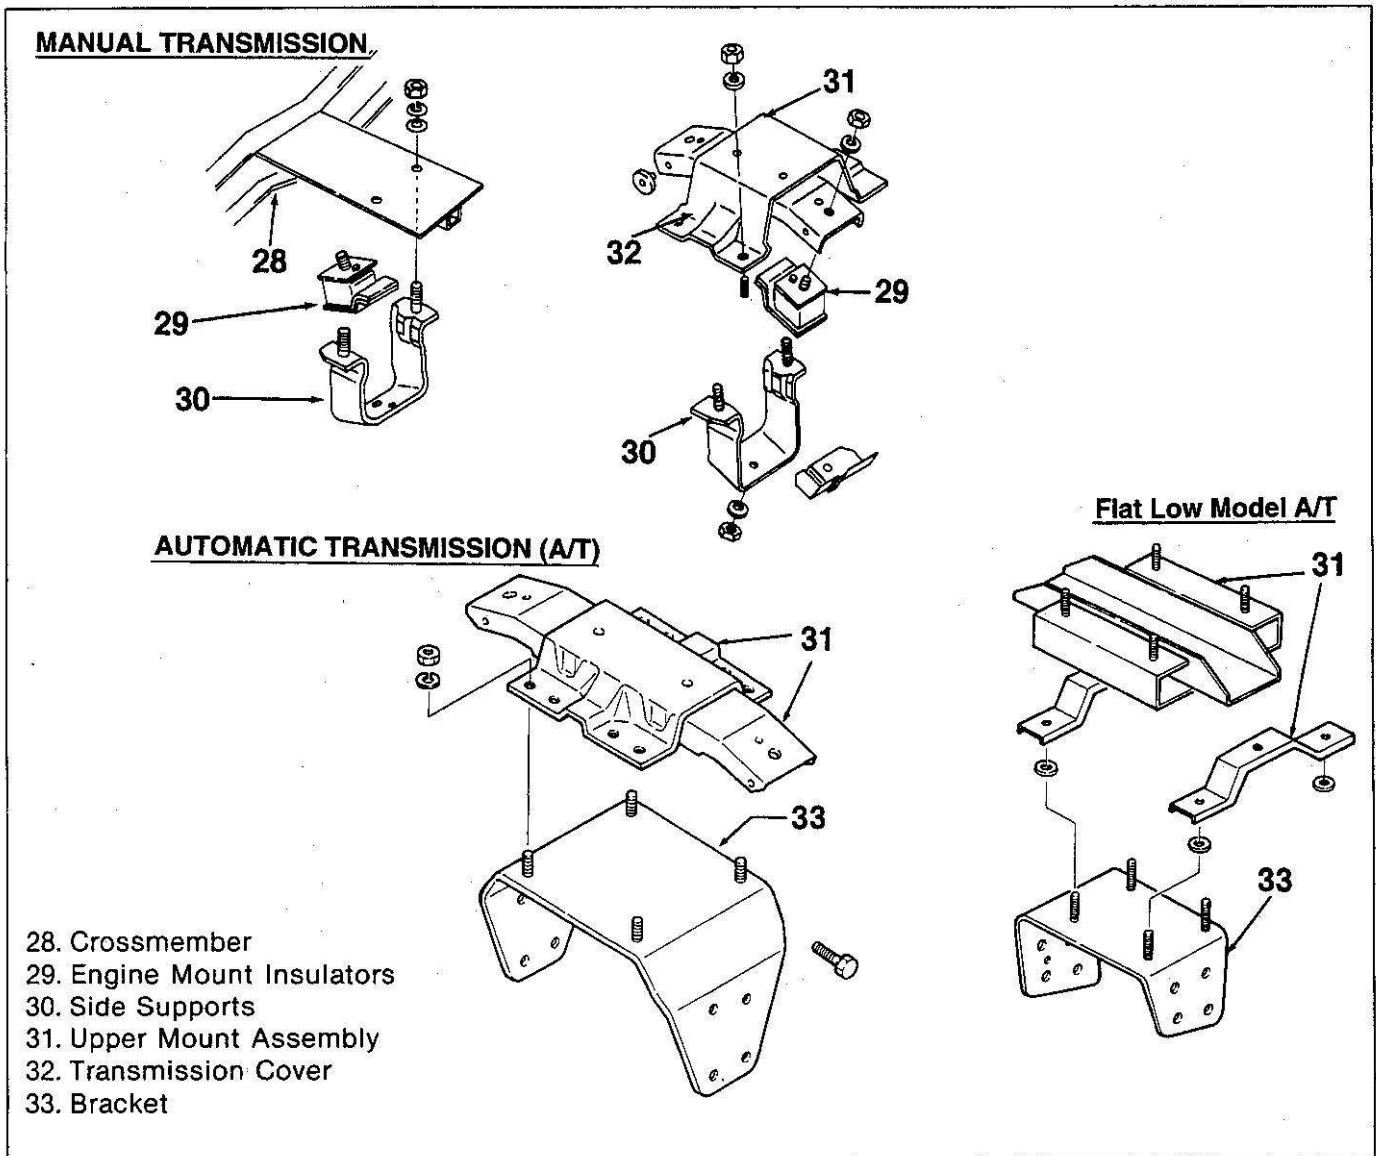

Figure 12. Transmission Mount
- 31. Transmission to frame crossmember side supports (30) (figure 12).
- 33. Attach a sling (34) and hoist to the engine
Remove or Disconnect (Figure 12)
Install or Connect (Figure 12)